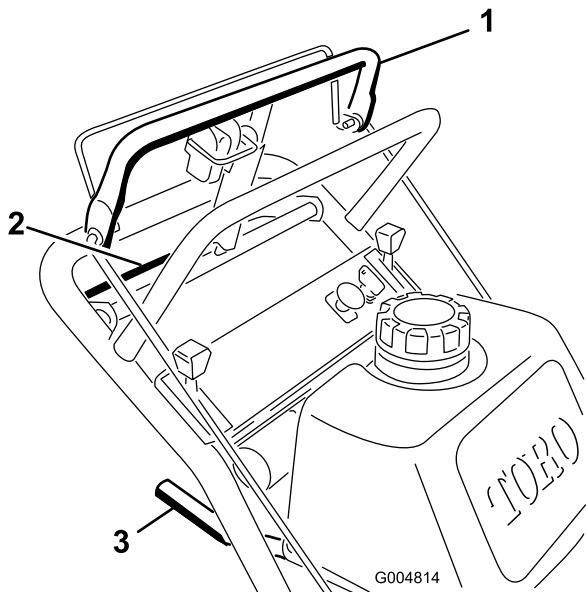

Figure 10
1. To go forward, move the shift lever to a forward gear (Figure 10).
3. Slowly press on the upper control bar to move forward (Figure 10).
To go straight, apply equal pressure to both ends of the upper control bar (Figure 10).
To turn, release pressure on the upper control bar side in the direction you want to turn (Figure 10).
3. Slowly squeeze the lower control bar and lower handle together to move rearward (Figure 10).
7. At the same time engage the lower control bar and lift up on the lower handle to drive over the curb (Figure 10 and Figure 11).
4. At the same time engage lower control bar and lift up on the lower handle (Figure 10 and Figure 11).